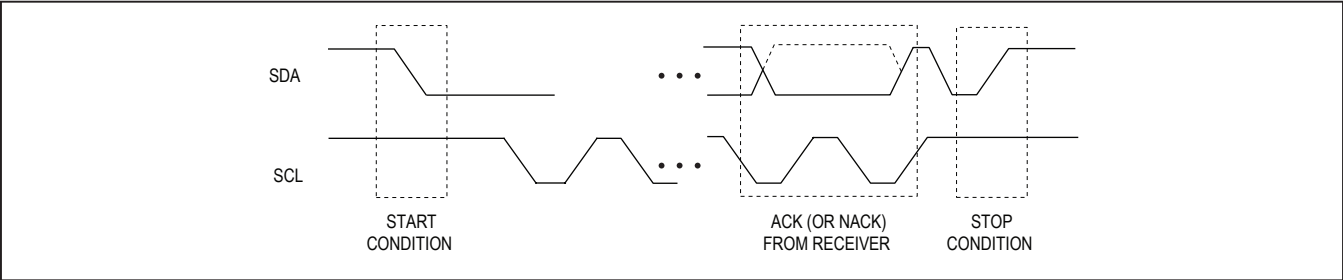

Figure 6. START, STOP, and ACK SIGNALS
**START Condition:** Signal generated by the master to indicate the beginning of a data transfer on the bus. The master generates a START condition by pulling SDA from high to low while SCL is high (see Figure 6). A “repeated” START is sometimes used at the end of a data transfer (instead of a STOP) to indicate that the master will perform another operation.
**STOP Condition:** Signal generated by the master to indicate the end of a data transfer on the bus. The master generates a STOP condition by transitioning SDA from low to high while SCL is high (see Figure 6). After the STOP is issued, the master releases the bus to its idle state.
**Acknowledge (ACK):** When a device (either master or slave) is acting as a receiver, it must generate an acknowledge (ACK) on the SDA line after receiving every byte of data. The receiving device performs an ACK by pulling the SDA line low for an entire SCL period (see Figure 6). During the ACK clock cycle, the transmitting device must release SDA. A variation on the ACK signal is the “not acknowledge” (NACK). When the master device is acting as a receiver, it uses a NACK instead of an ACK after the last data byte to indicate that it is finished receiving data. The master indicates a NACK by leaving the SDA line high during the ACK clock cycle.